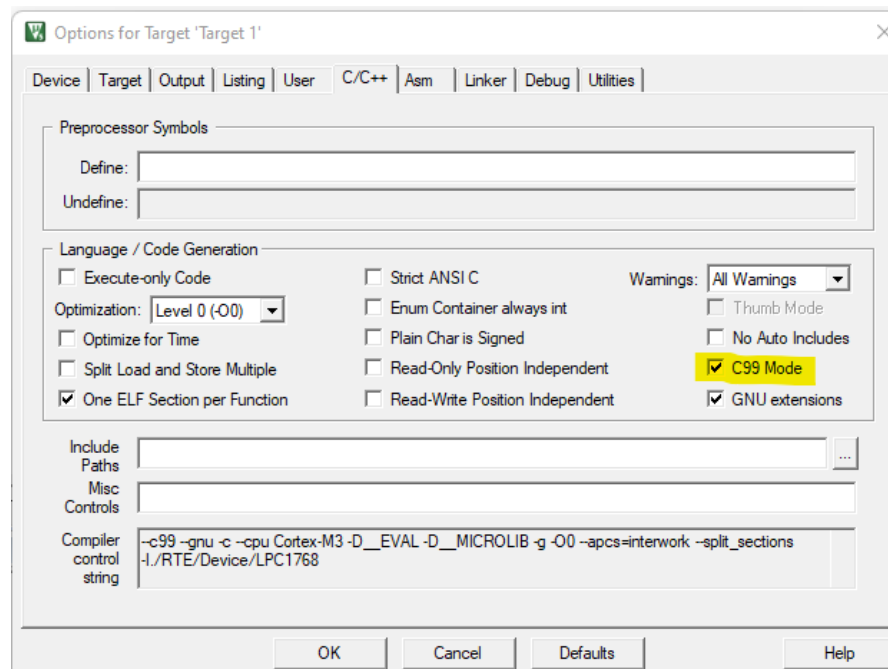

Figure 9
11. Select C/C++ and check c99 mode as shown in Figure 9.